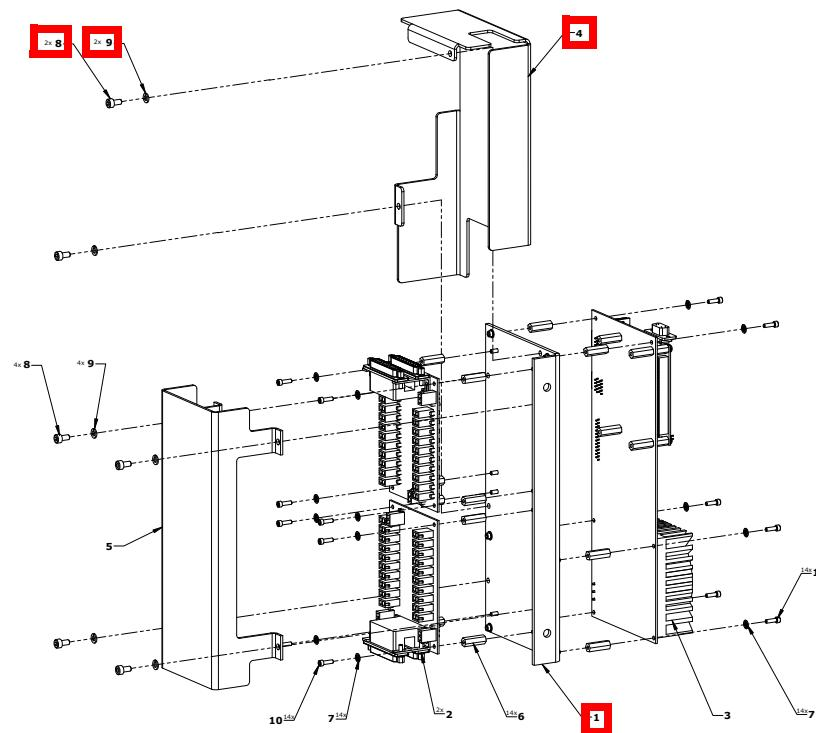

Figure 5-14
5. See Figure 5-14. Remove RTB Master Cover (5252402, Item 4) by removing two (2) 4mm socket screws (2109867-2, Item 8) and two (2) lock washers (2109880-2, Item 9) from the Real Time Bus Board Support (5194639, Item 1). Set aside.